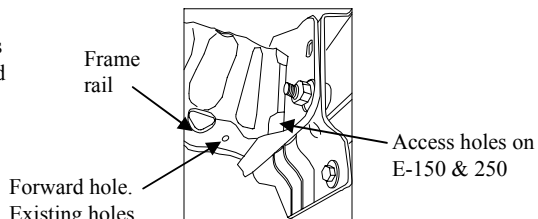
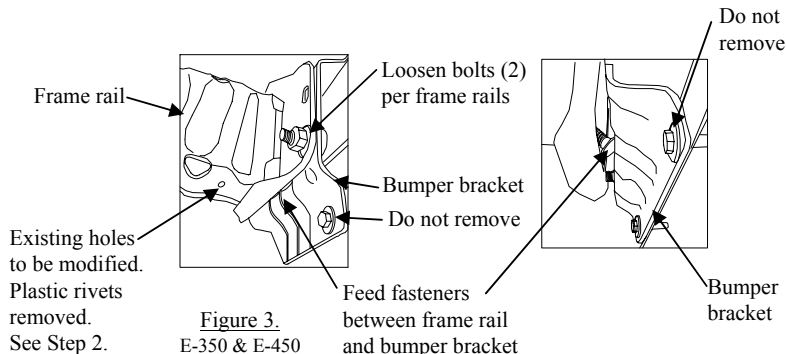

Figure 2.
Figure 3.
2. If present (E-350 & E-450) remove any plastic rivets from (see Figure 3) forward attachment on vehicle. Fold plastic between plastic covering and frame rail.
5. Feed carriage bolts and spacers thru access point at forward end of frame rail (E-150 & E-250) using a pull wire as shown. See Figure 2. Note: On E-350 & E-450 loosen bolts at the end of the frame rail (See Figure 3) and bumper bracket enough to feed fasteners into the opening at the end of the frame rail. Do not remove bolts completely. See Figure 3. The bumper may shift downward slightly. After feeding fasteners into frame rail, raise and retighten bolts.